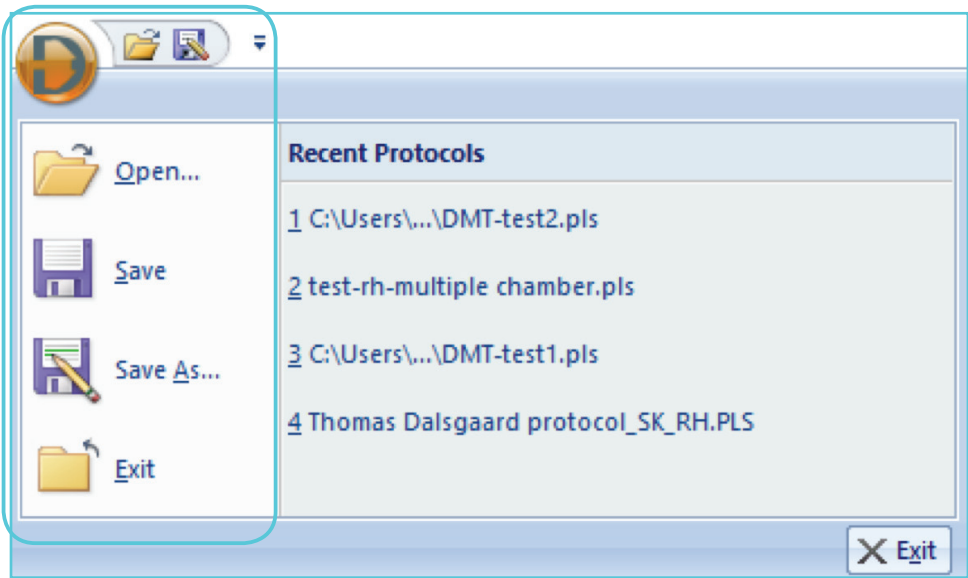

Figure 4.2.1
- 1. By Clicking on 'D' and selecting 'Save as' (figure 4.2.1), eg 'Protocol 1' the protocols loaded/created for all channels will be saved into a single file where the protocols for each channel can be identical or completely different (figure 4.2.2). Then, by selecting 'Open' an existing saved stimulation protocol file for all channels can be loaded.